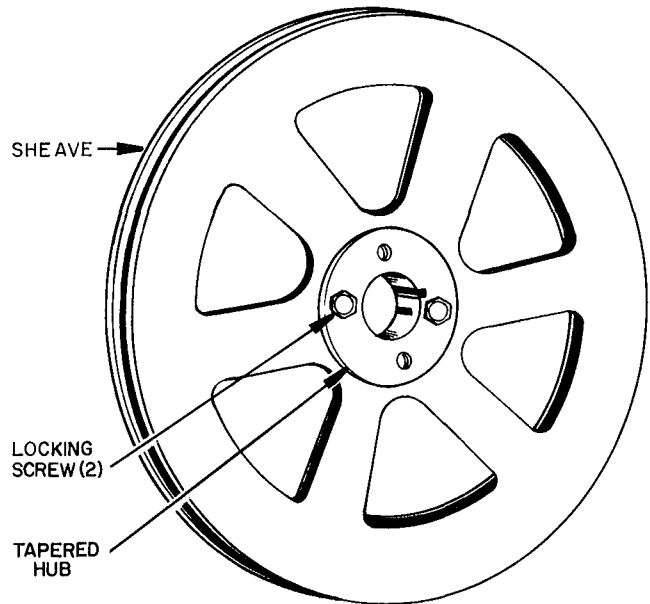

Fig. 4 - Fan Shaft Sheave
2. Loosen and remove locking screws. Refer to Fig. 4.